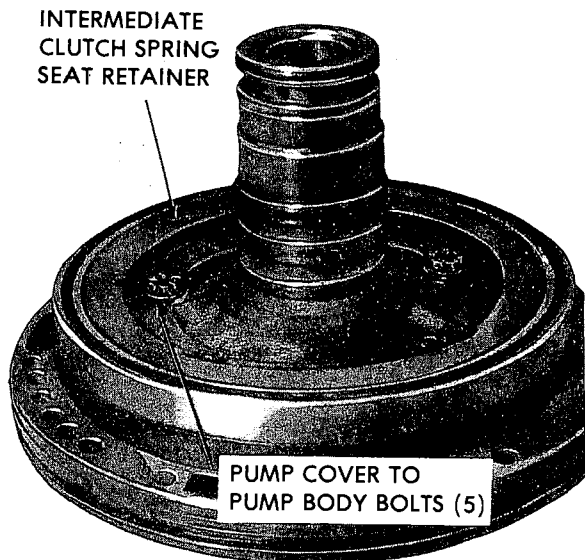

Figure 7C-79
4. Install J-23069 tool and compress intermediate clutch 1-2 accumulator cover and install retaining ring. See Figure 7C-77.